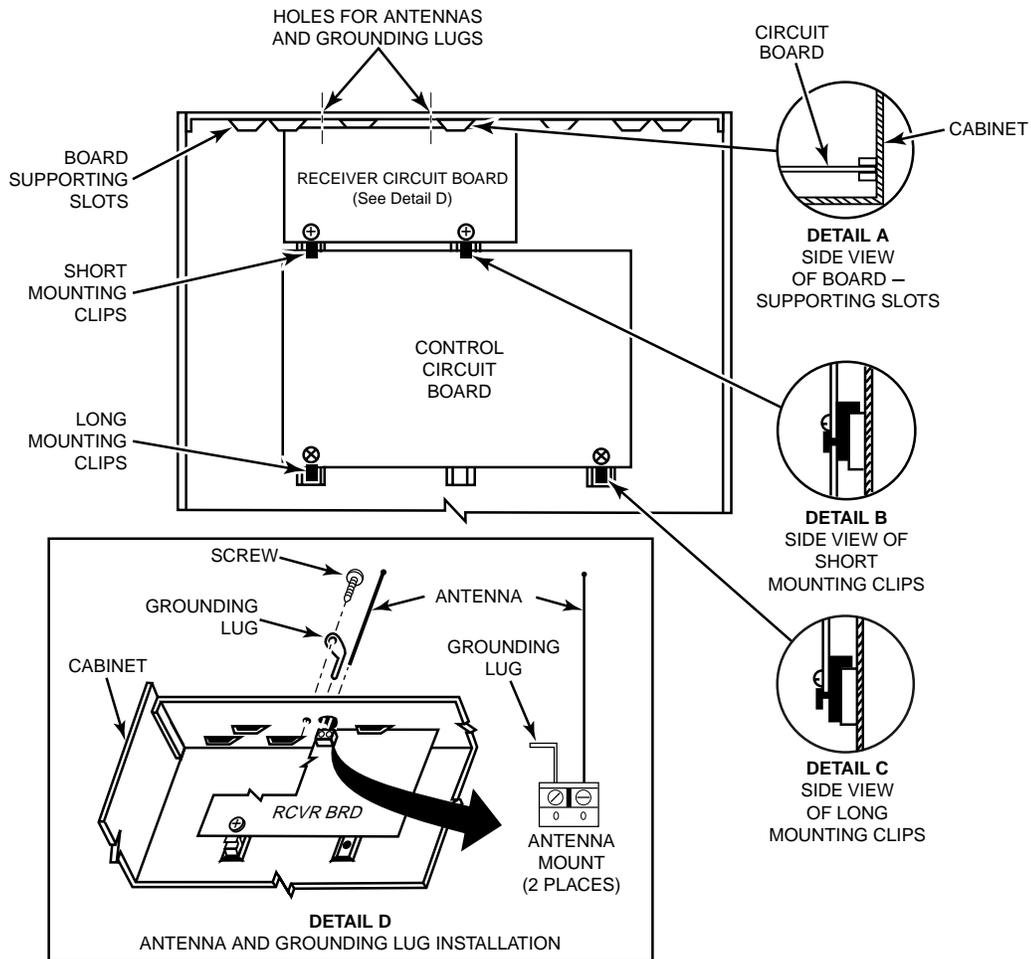

Figure 3. Mounting the PC Board and RF Receiver Together in the Cabinet
1. Hang two short (black) mounting clips (provided with receiver) on the raised cabinet tabs, as shown in Detail B in *Figure 3*.
2. Insert the top of the receiver board (removed from its own case as described in its instructions) into the slots at the top of the cabinet, as shown in Detail A in *Figure 3*. Make sure that the board rests on the correct row of tabs, as shown.